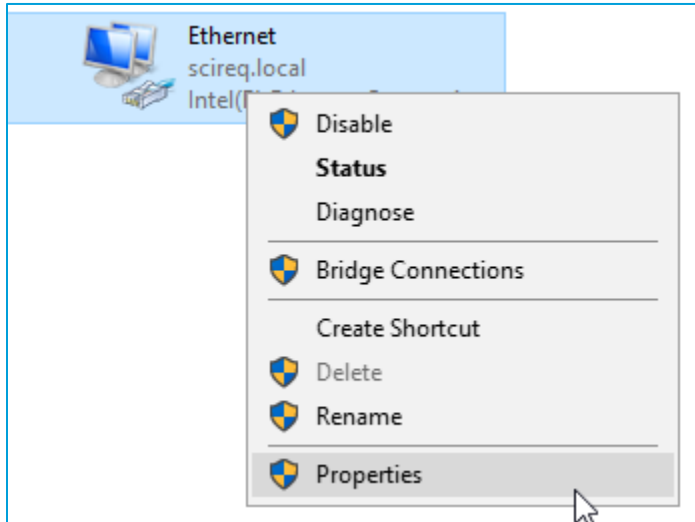

Figure 3-2: Network and sharing connection page of the Control Panel
- » Select the icon corresponding to the card used to connect to the inExpose system, right click and select *Properties* (Figure 3-2)